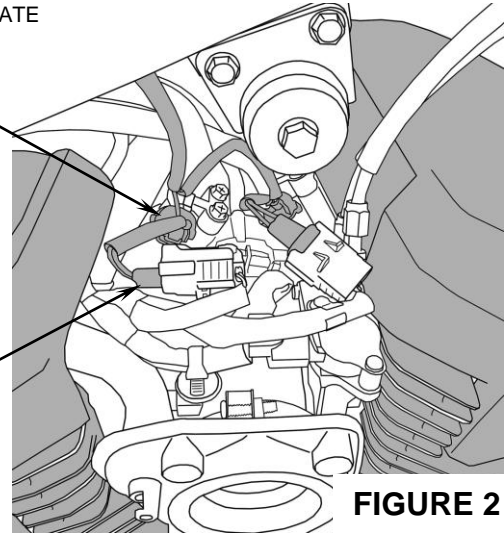

**FIGURE 1**
1. Remove the (4) M6 bolts that hold on the right side air cleaner cover then remove the cover and filter. Remove the air cleaner backing plate by loosening the (4) screws around air inlet (Note: screws will not come out they only loosen) and the (1) M6 hex bolt from the backing plate. See Figure 1.